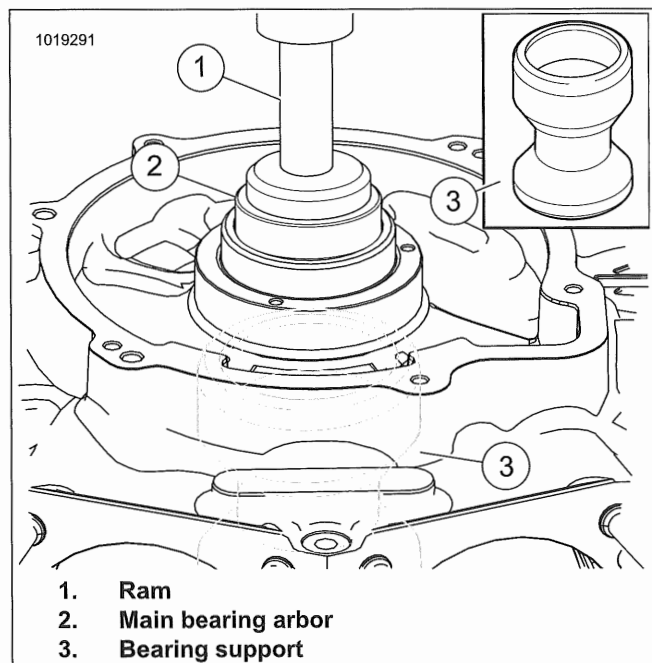

Figure 4-69. Remove Left Main Bearing
- b. See Figure 4-69. Press the bearing from the stator side into the flywheel side of the crankcase.